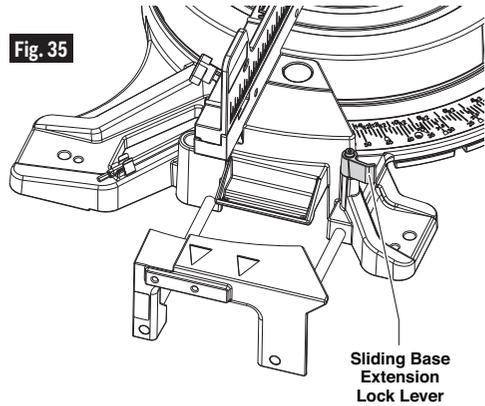

Fig. 35
**Operating Base Extensions** – These extensions provide extra workpiece support and are especially useful when cutting long workpieces. To reposition the extensions, simply unlock the base extension lock levers, reposition the extensions and relock the levers (see Figure 35). The left extension lock lever tightens by rotating clockwise and the right lock lever tightens by rotating counterclockwise.